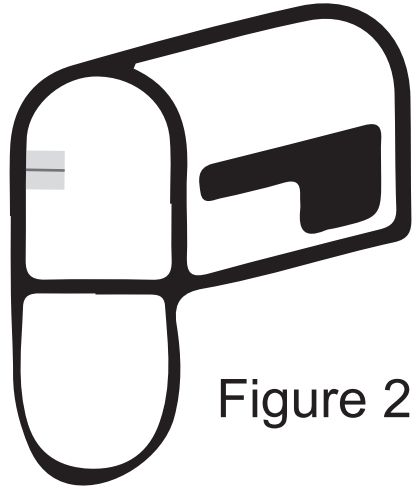

Figure 2
2). Peel off the permanent stick-on* protective liners from the back of each 1" x 3" 3M™ Dual Lock™ mounting pad and attach them inside on the flat cleaned surface with the shorter edge of the 3M™ Dual Lock™ pad flush with the outside edge of the of the mailbox wall and with one 3M Dual Lock strip meeting above/below the other creating a 2" x 3" mounting pad. Press firmly into place for 60 seconds. (See Figure 2 on back of this page). * Stick-on has very fast and high bonding strength. First attempt at application should be permanent.